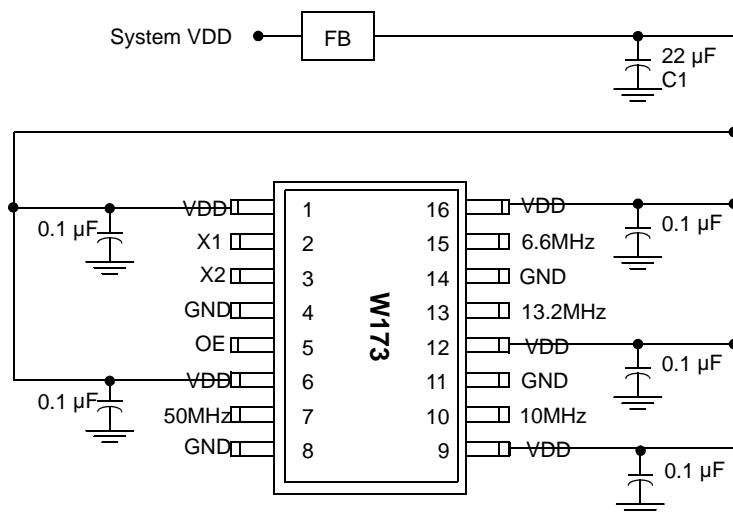

Figure 1. Test Circuit
The recommended single voltage power supply configuration for the W173 is shown schematically in *Figure 1*. These recommendations should be followed to both ensure adequate device performance and to control EMI. The major considerations can be summarized as follows:
3. All AC tests are performed using the circuit shown in *Figure 1* to simulate typical system load conditions. Measurements are taken at the load. Threshold voltage for timing measurements is 1.5V.